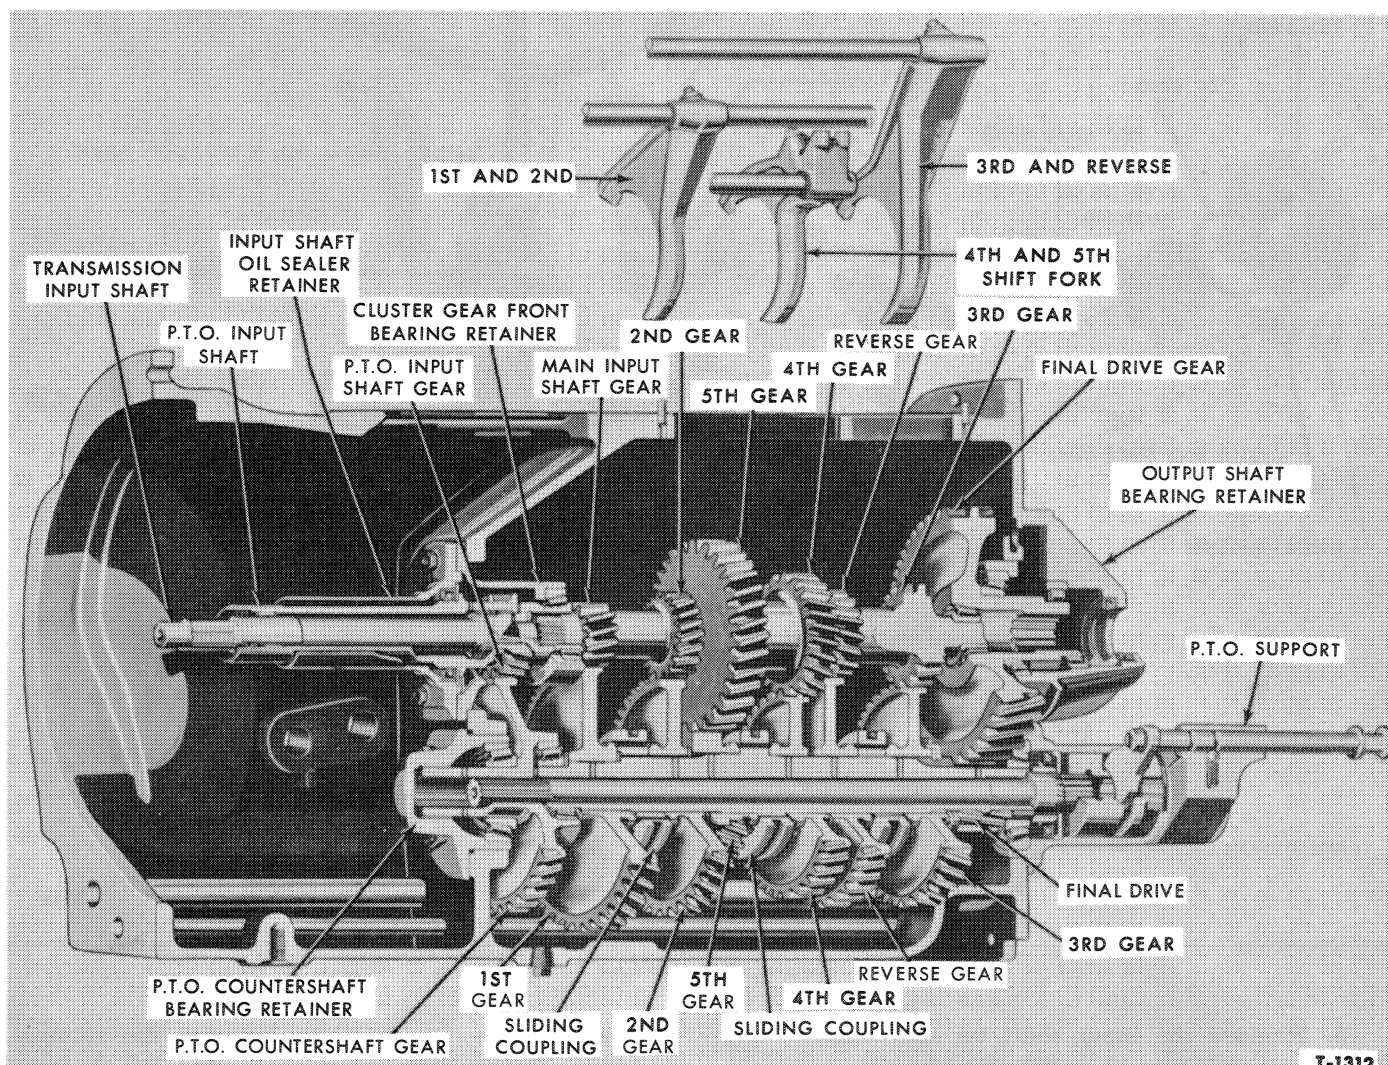
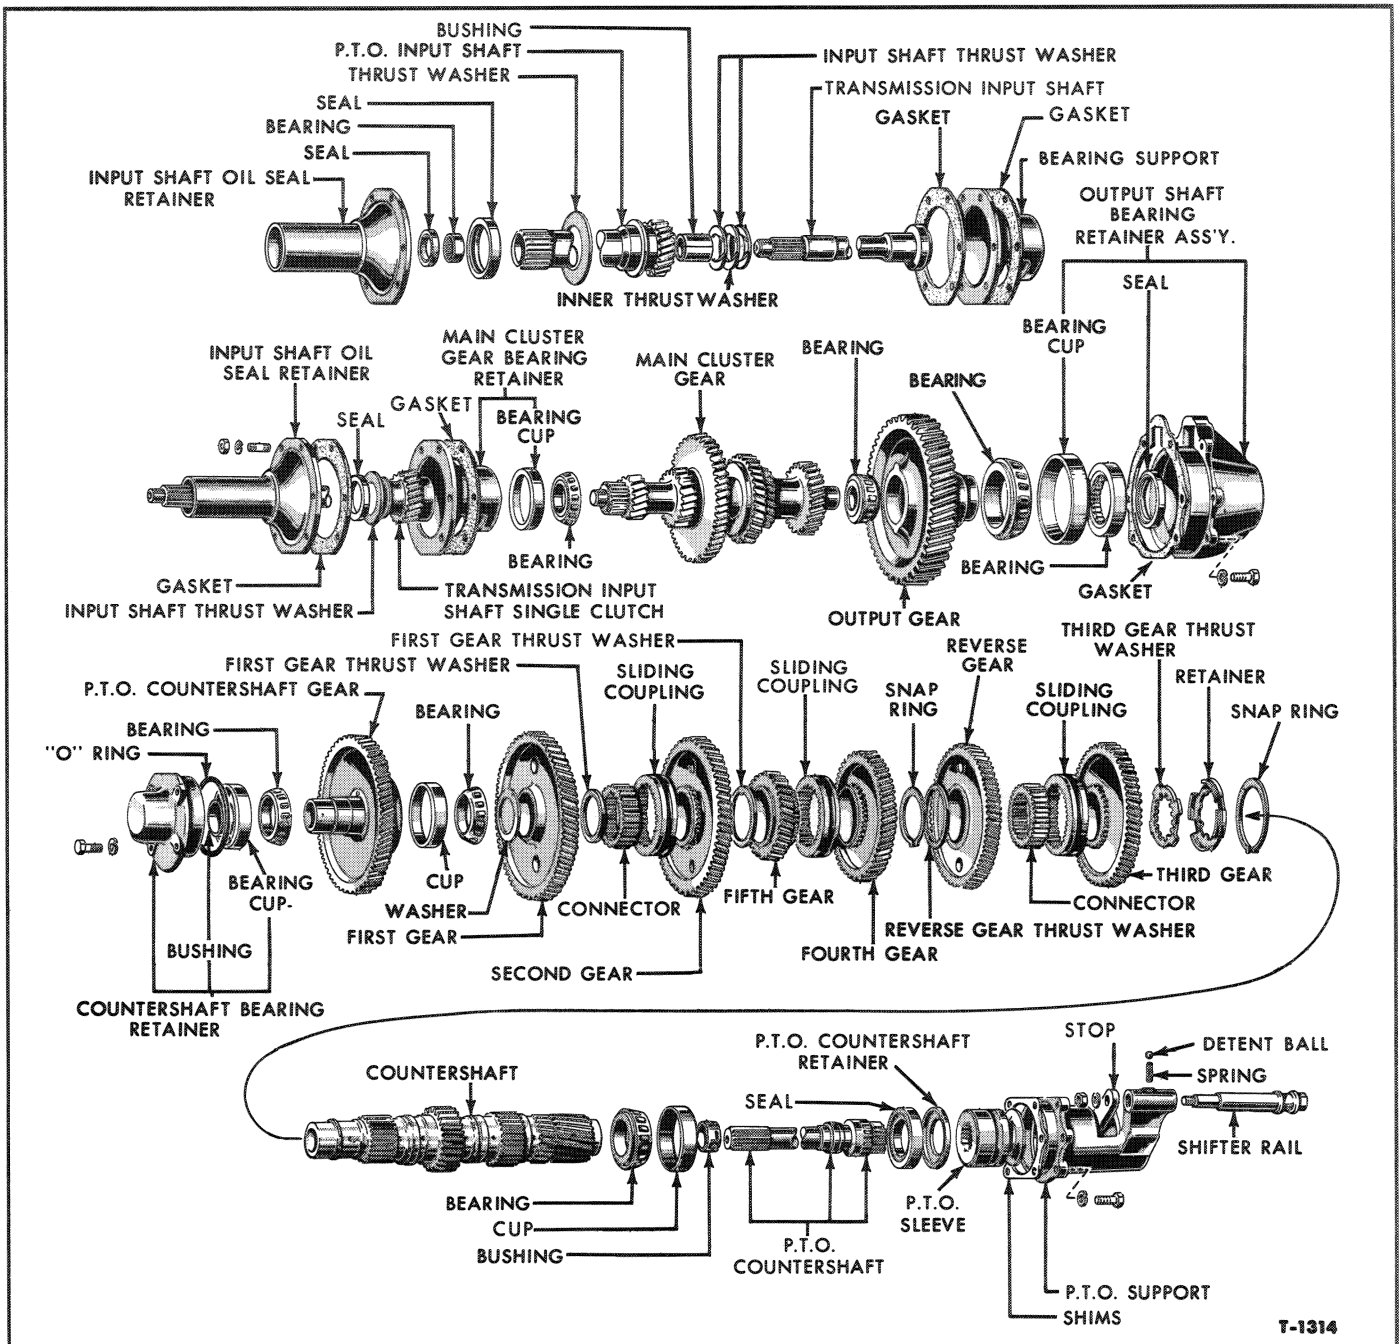

Figure 11—Five Speed Transmission—Double Clutch
Figure 13—Gears and Component Parts
The double clutch five speed transmission, Figure 11, utilizes a separate input shaft to drive the P.T.O. countershaft gear. The single clutch transmission does not have a separate P.T.O. input shaft. Instead, the transmission input shaft incorporates a gear which drives the P.T.O. countershaft gear. Any difference in procedure between the single and double clutch transmission will be noted in the text.
6. Remove the input shaft, oil seal retainer, and gasket, Figure 13, as an assembly.
10. Remove the six bolts and lock washers that secure the P.T.O. support, Figure 11, to the rear of the transmission and remove the support. Keep the shims intact and with the support to facilitate assembly.
14. Remove the transmission output gear, Figure 13, and remove the remaining expansion plugs.
19. Working from the rear of the case, remove the P.T.O. countershaft from the countershaft assembly, Figure 13. Remove the four front countershaft bearing retainer attaching bolts and lock washers, Figure 11. Remove the retainer and "O" ring seal from the case. Move the countershaft as far to the rear as possible and then lift it out of the case, front end first.
20. Remove the P.T.O. countershaft gear from the transmission case, Figure 11.